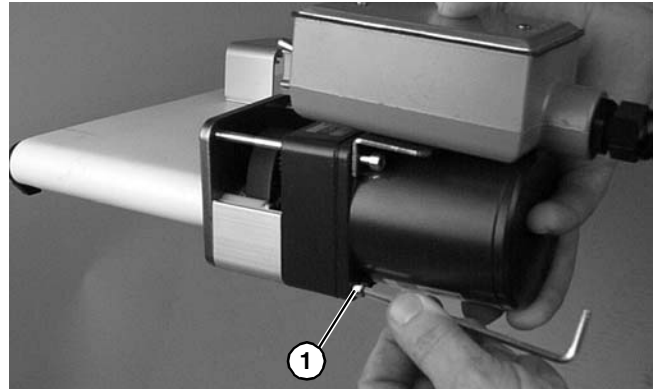

Figure 7
- Insert gearmotor drive pulley into timing belt. Mount assembly with two (2) bottom screws (**Figure 7, item 1**). Tighten to 45 in-lb (5 Nm).